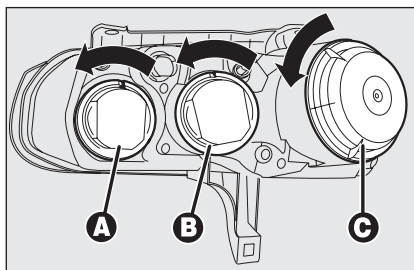

fig. 22
The bulbs are arranged inside the light unit **fig. 22** as follows:
- remove cover **A-fig. 22** by turning it counter-clockwise;
- turn cover **B-fig. 22** counter-clockwise;
- turn cover **C-fig. 22** counter-clockwise;